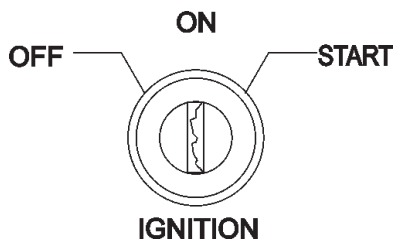

**Figure 19. Emergency Stop Switch**
2. Locate the Emergency Stop Switch (Figure 19) on the Hydraulic Pump Control Box. Turn the Emergency Stop switch counter-clockwise (open). This will allow the engine to start.
1. Depress the **Emergency Stop Switch** (Figure 19)